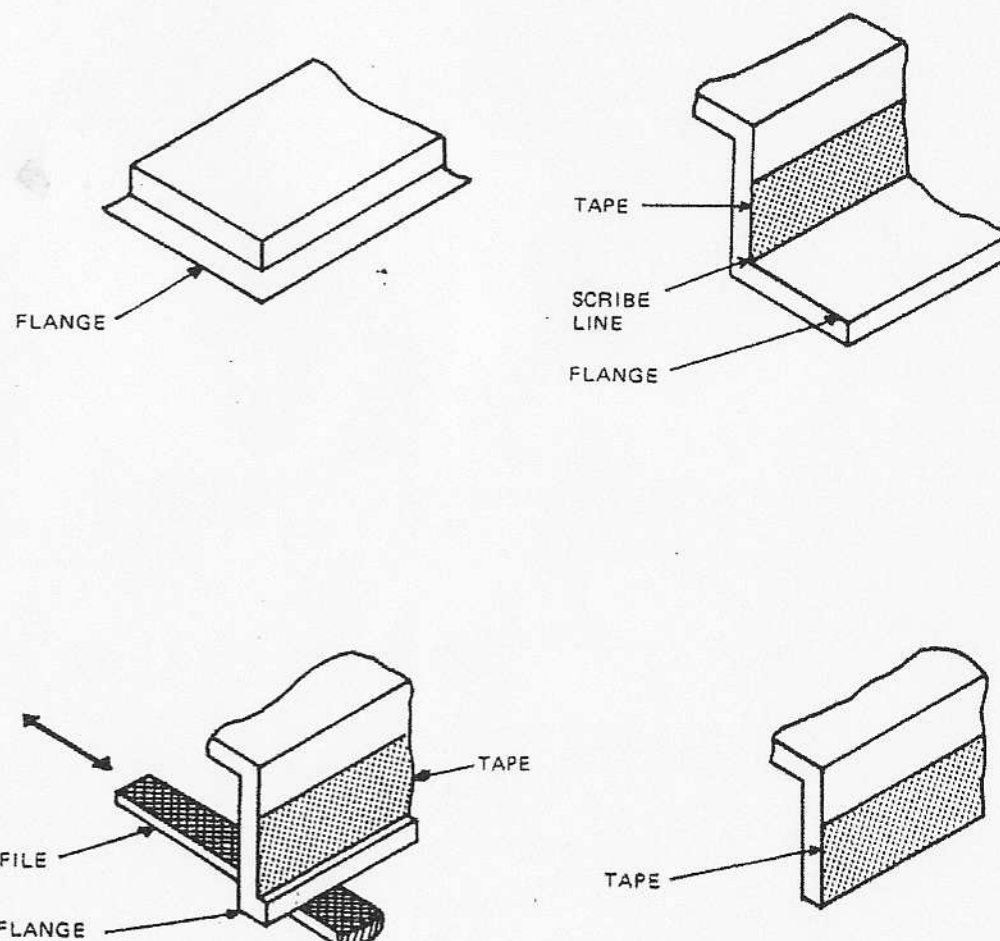

Figure 34
- ☐ In a situation where the scribe line falls in a right angle corner, such as the running board flange, tape the vertical surface at a right angle to the flange. Cut the flange off next to the tape. File off the remaining fiberglass level with the tape. (Refer to Figure 34)